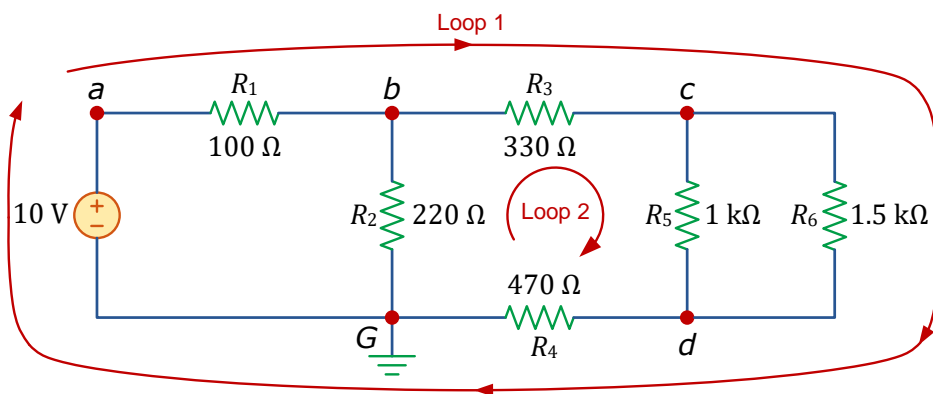

Figure 3.6: Resistive circuit with given outer and inner loops for applying KVL.
- 9 Apply KVL for loops 1 and 2 as shown in Figure 3.6 (i.e., in the clockwise direction), using both the measured and calculated voltage values. Verify that the KVL equations are satisfied using both sets of values (measured and calculated) and comment on the differences in the equations.